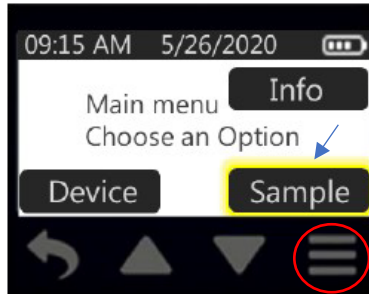

Figure 36. Sample Button
1. Press the main menu button (three Horizontal lines below the display) to get to the Main Menu and touch Sample (Figure 36).